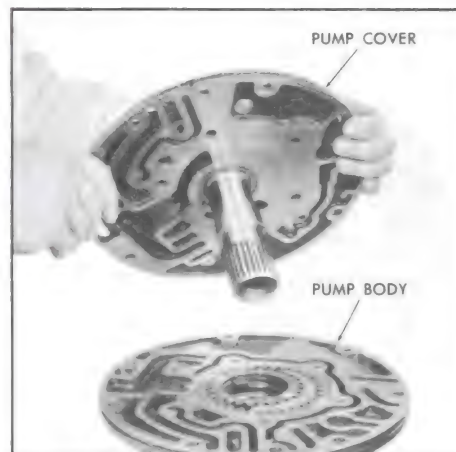

Figure 5-597
10. Assemble pump cover to pump body with attaching bolts. See Figure 5-597.